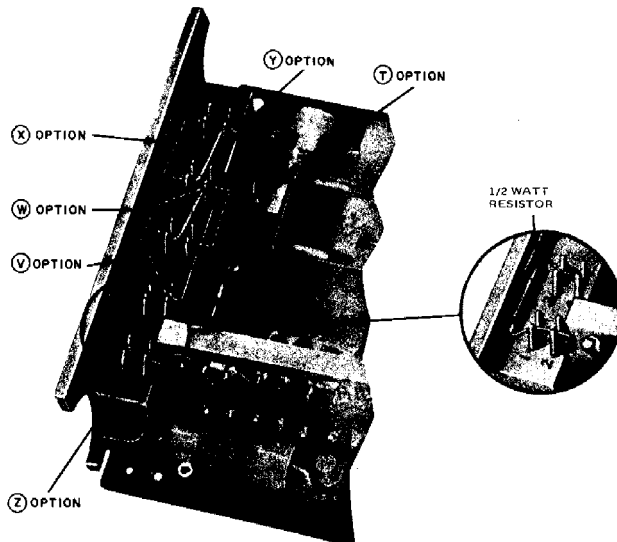

FIGURE 2. 400D KTU Option Block Handle
- 3.02 Figure 2 shows the KTU line circuit option block layout. Use 24 gauge bare wire for strapped connections and place in option terminal using long-nose pliers.
- c. Remove the (Z) option strapping.
- d. Connect one lead of the selector resistor to terminal 3 on the option block. Connect the other lead to *both* terminals 1 and 2 (see Figure 2).